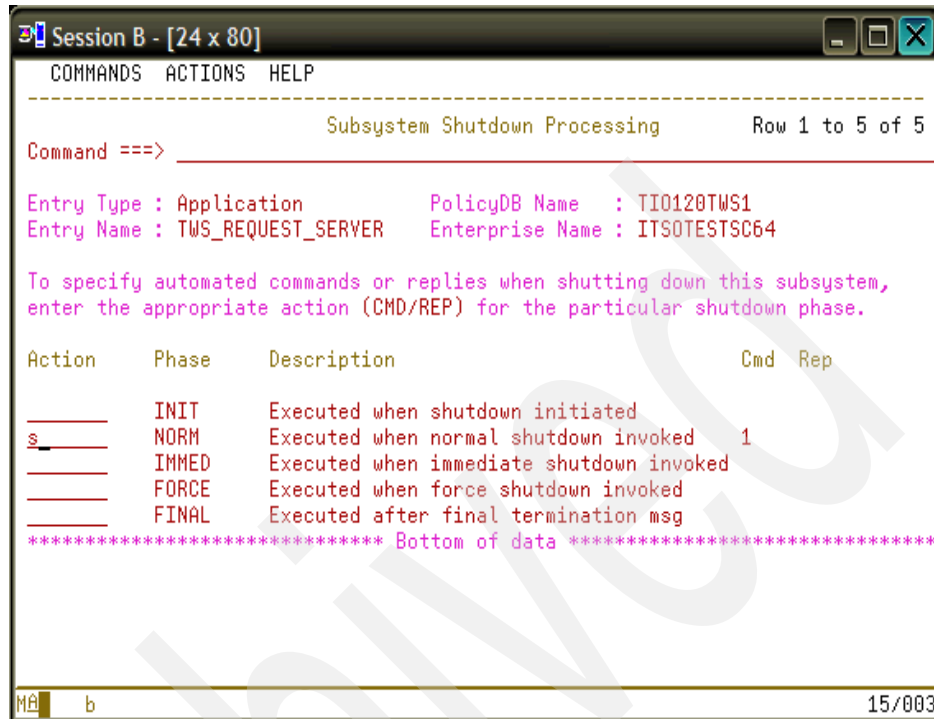

Figure 4-31 Subsystem Shutdown Processing panel
4. Place an s in the Action column next to SHUTDOWN on the Policy Selection panel. The Subsystem Shutdown Processing panel that is shown in Figure 4-31 on page 135 displays.